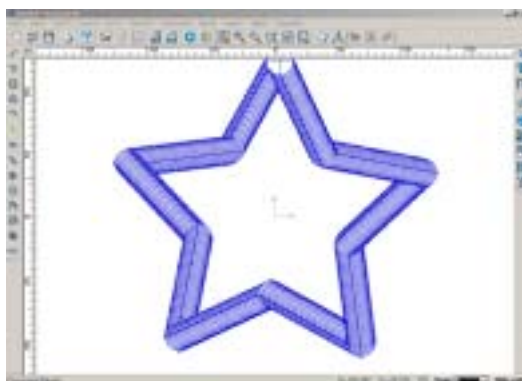

Fig. 10-34
2. Select an end mill tool with diameter of 22 and height of 10, set the total depth at 5, and select on curves, then the effect is shown in Fig. 10-34.